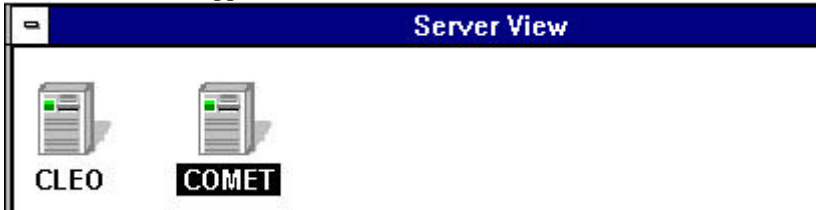

Figure 3-1: Server Icons
- Click the icon of the server whose arrays and spares you want to configure, as shown in Figure 3-1. You can identify the server by the name that appears beneath it.